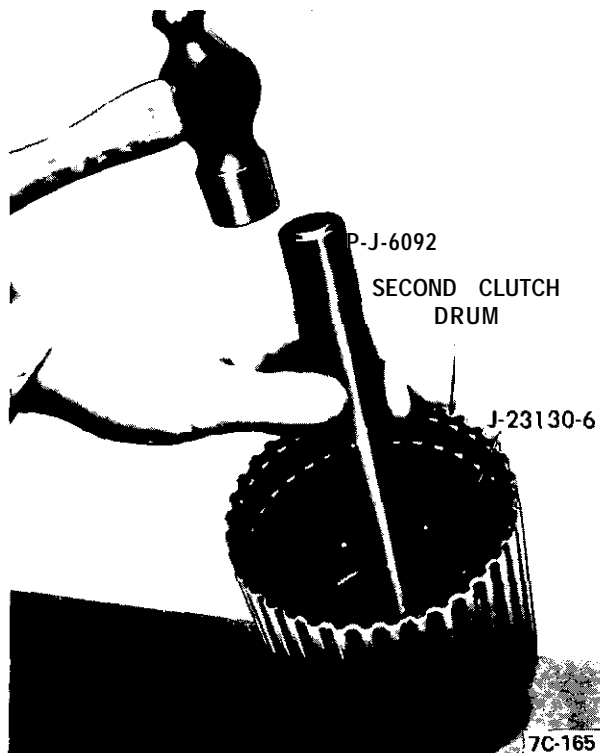

Figure 7C-164
15. Clean in solvent to remove any foreign matter. Install new second clutch hub bushing using tool J-23130-6 and driver handle J-8092. Bushing must be driven in until tool bottoms on bench. See Figure 7C-164.